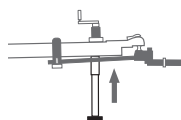

Figure 35
8. Raise the trailer coupler above the hitch ball. (Figure 35)